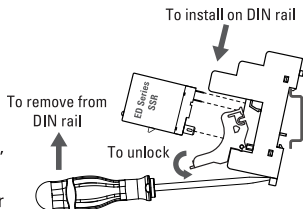

fig. 1 DRSED Socket Mounting/Dismounting
- ◆ Insert ED Series SSR into DRSED socket observing terminals' orientation (fig. 1).
- ◆ Install the ED Series SSR / socket on the DIN rail as shown in fig. 1
- ◆ To retrieve the ED Series SSR from socket, first unlock latching mechanism, as shown in fig. 1, then gently pull the SSR.
- ◆ Release DRSED socket from DIN rail using a screwdriver. See fig. 1.